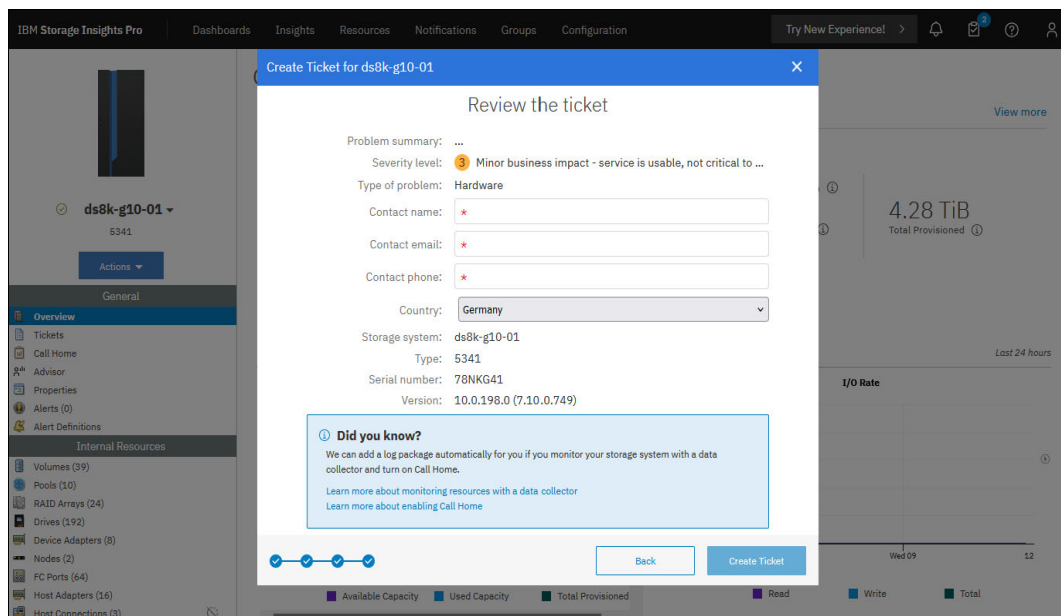

Figure 12-25 IBM Storage Insights: Review the ticket
- Review and verify the details of the IBM ticket that you are about to open, as shown in Figure 12-25. Provide the name of the contact person, along with a valid contact phone number and email address.